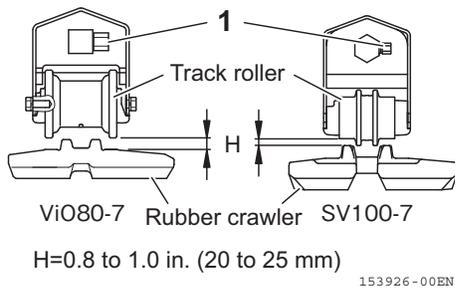

Fig. 8-11
2. Raise the machine using the implement and the safety blocks. Inject grease through the nipple valve (**Fig. 8-11, 1**) using a grease gun until the rubber crawler tension has achieved a clearance (H) that is within the following range: 0.8 to 1.0 in. (20 to 25 mm).